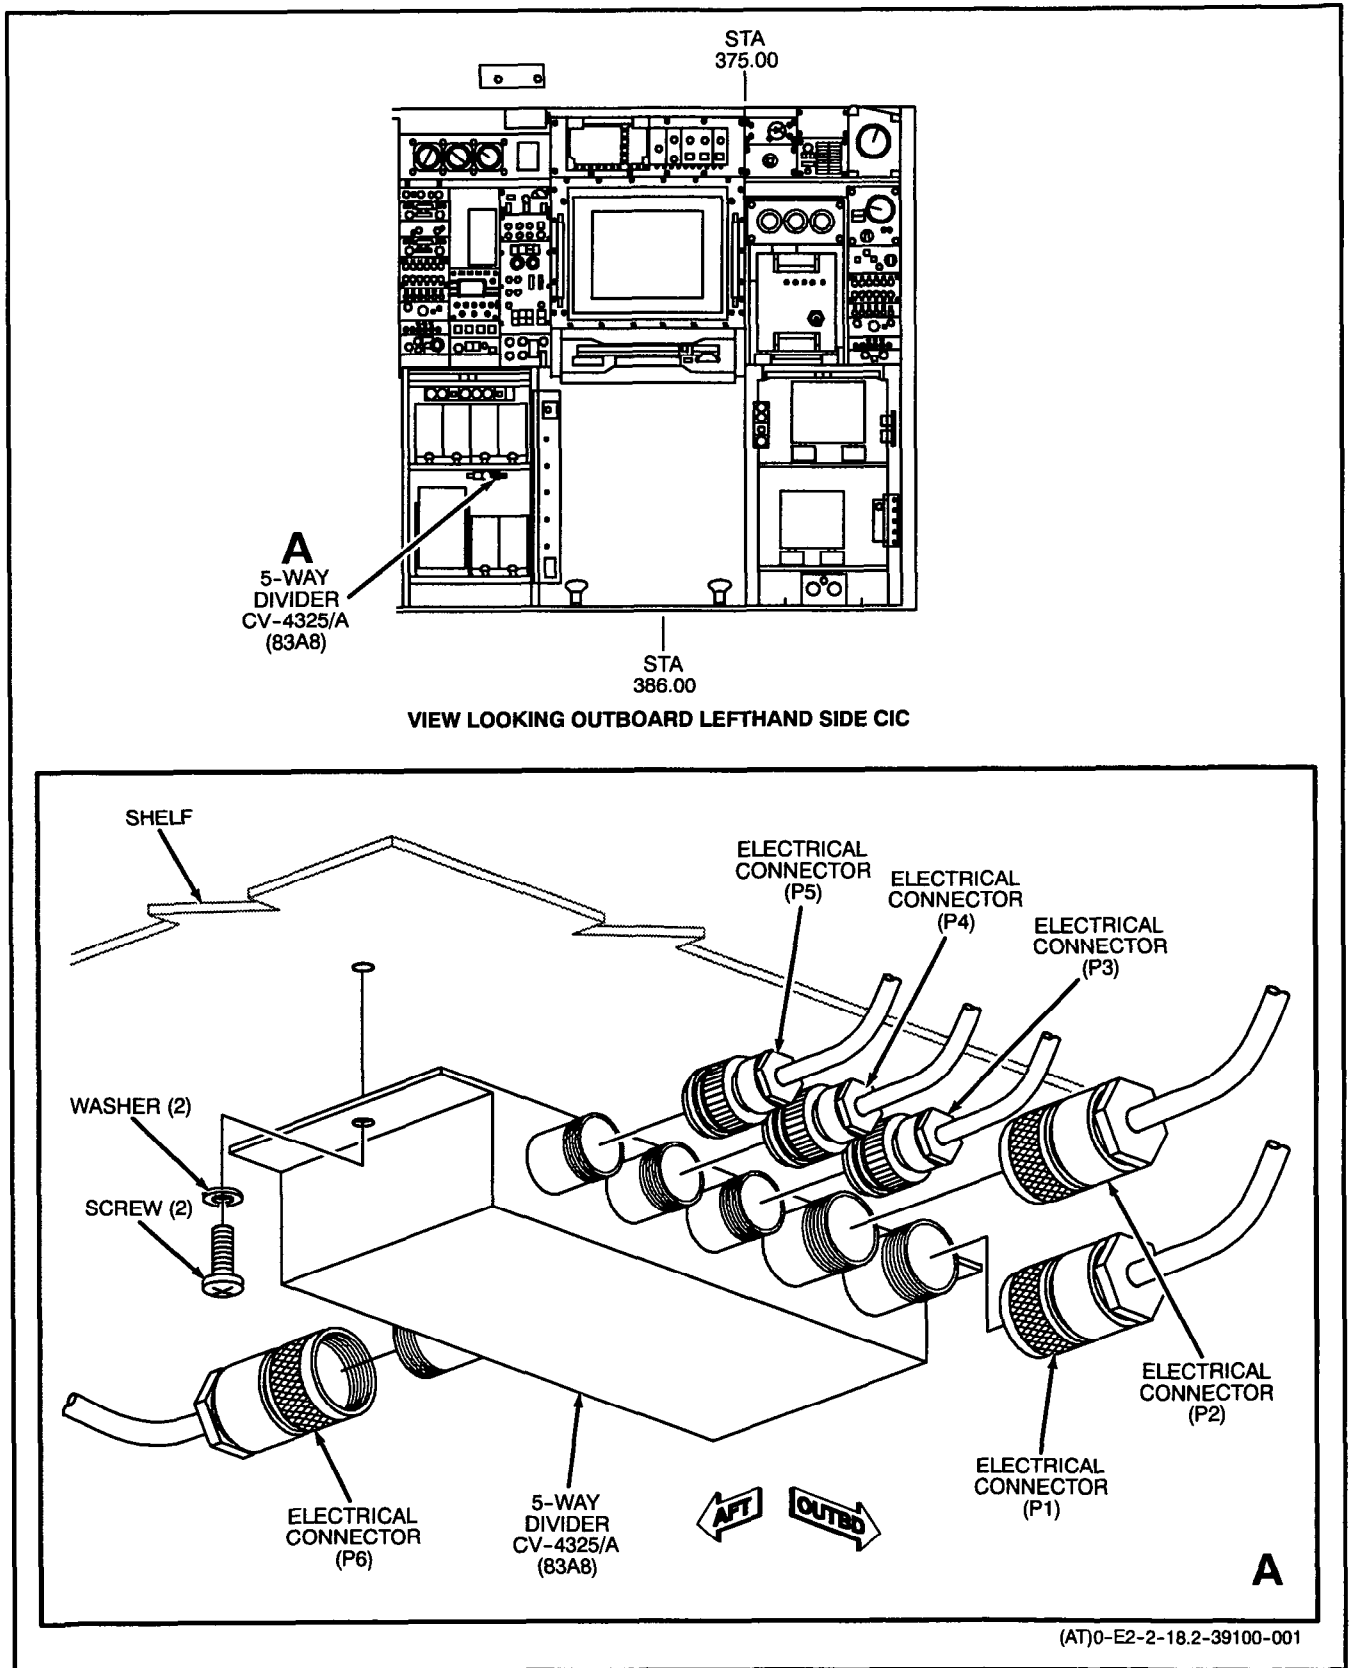

Figure 1. Removal and Installation of 5-Way Divider CV-4325/A (83A8)
**2. INSTALLATION.** (Figure 1.)
d. Remove caps and connect six electrical connectors P1 through P6 to receptacles J1 through J6, respectively, on divider. Remove tags. (QA)
f. Perform operational check of Satellite communications (SATCOM) System (NAVAIR 01-E2AAA-2-17.1.1, WP021 03). (QA)